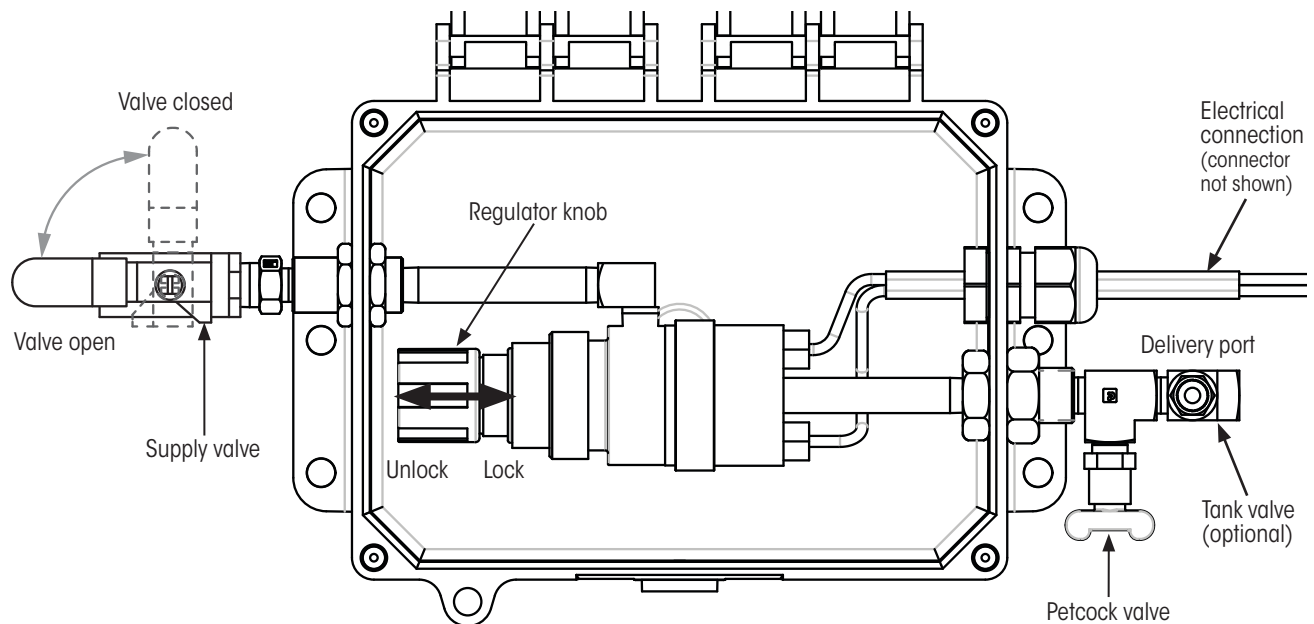

Figure 53: Setting TIREMAAX® CP Inflation Pressure
Follow this procedure to check Inflation Pressure at the delivery port (Figure 53) of a TIREMAAX CP controller.
3. **Close** controller supply valve (Figure 53).
- A. **Close** supply valve (Figure 53).
1. **Unlock** the regulator knob by pulling it away from the regulator body (Figure 53).
- Lock** regulator knob by pushing it in toward the regulator body (Figure 53). Ensure knob will not rotate.